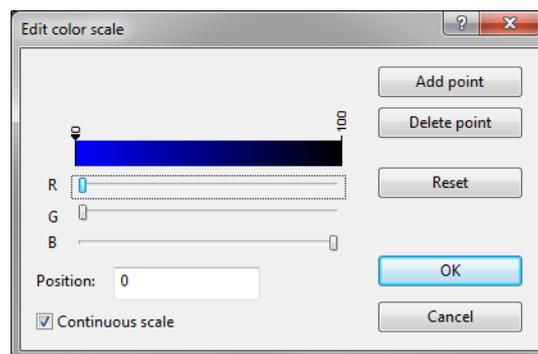

Figure 2: Blue color.
11. Select the left-most point on the color scale. It is marked with a black triangle. Adjust the red, green and blue components individually until you have obtained the blue color (see Figure 2).